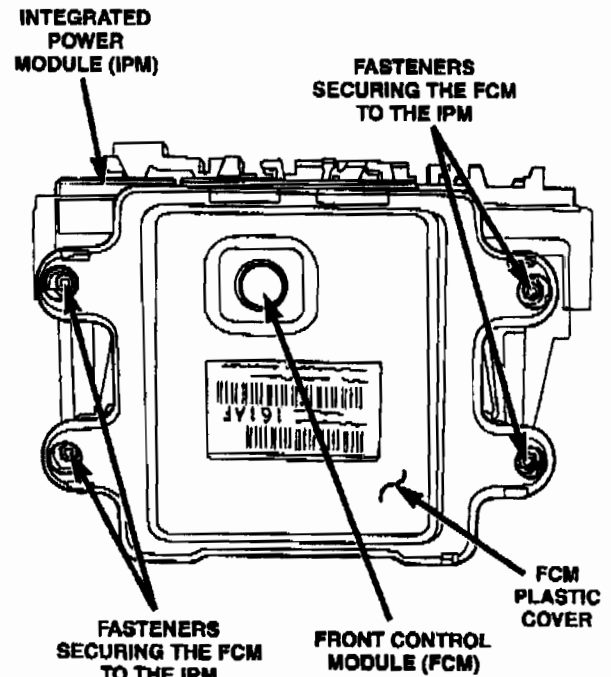

Figure 4
7. Remove the four fasteners securing the FCM to the IPM (Figure 4).
9. Transfer the plastic cover from the original FCM module to the new FCM module (Figure 4).
11. Install the four fasteners securing the FCM to the IPM (Figure 4).